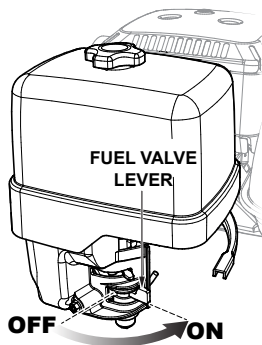

Figure 16. Fuel Shut-Off Lever
1. Place the fuel shut-off lever (Figure 16) in the **ON** position.